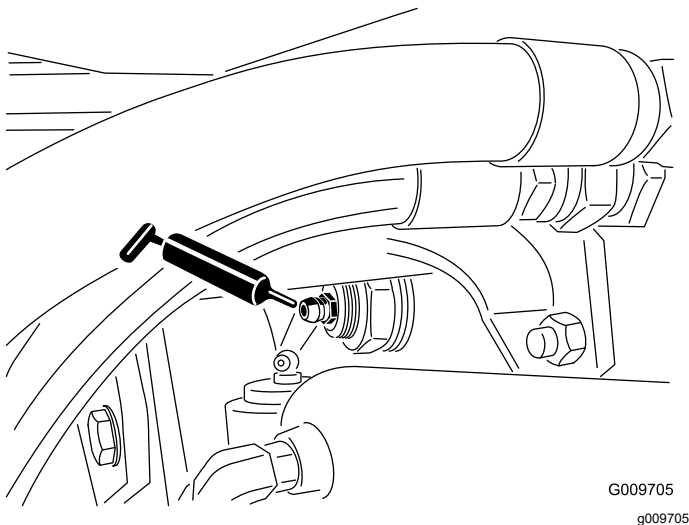

Figure 57
- Rear axle pivot bushings (2), refer to Figure 57